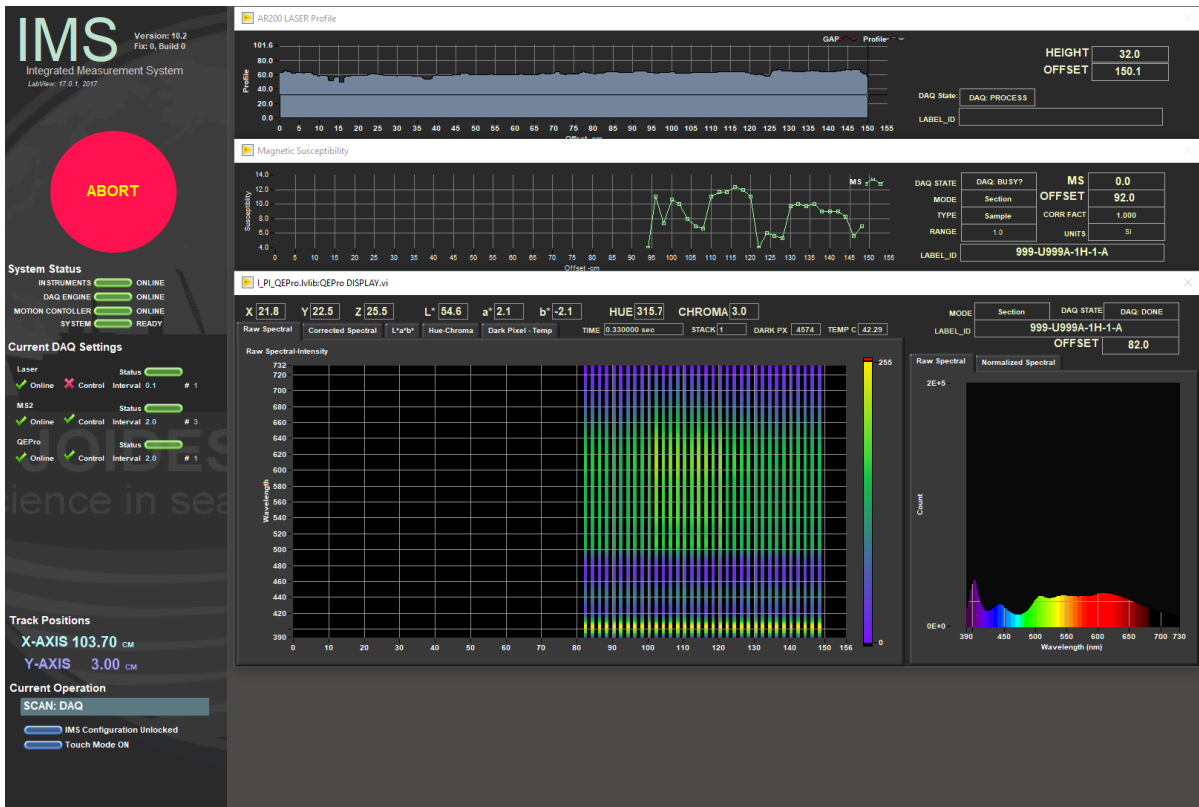

Figure 19. Main IMS- SHMSL Data Acquisition Display
5. Select **Go**. The measurement process will begin (Figure 19)